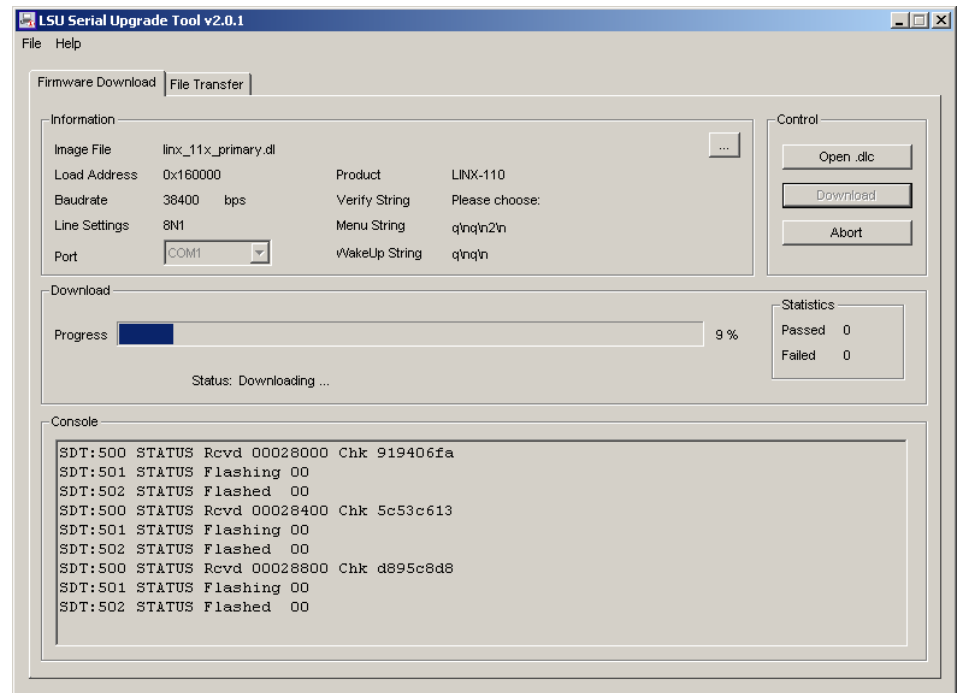

Figure 365: Progress Bar during Firmware Download.
2. If the device is not connected to COM1 you can change the port to COM2, COM3, or COM4. Make sure that the product shown under "Product" matches the device you are upgrading. Press **Download** to start the download. A progress bar as shown in Figure 365 can be seen.